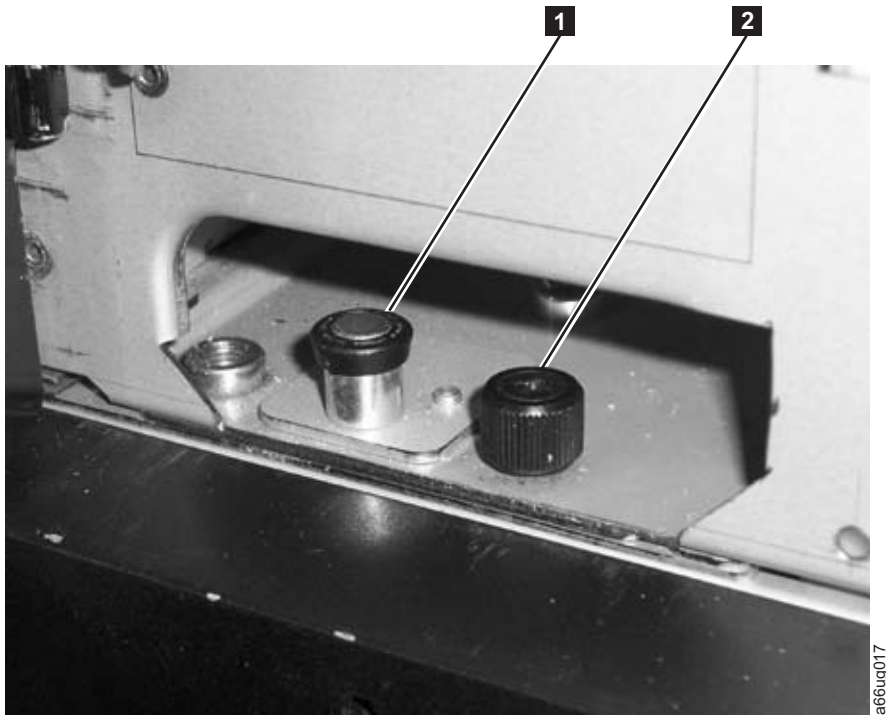

Figure 3-23. Module-to-Module alignment pin and front thumb screw
3. Ensure that the module-to-module alignment pin (**1** in Figure 3-23 on page 3-25) is in the raised position. If necessary, raise the pin and rotate it half a turn to lock it in the raised position.
9. Twist the upper module alignment pin ( **1** in Figure 3-23 on page 3-25) to unlock it from the up position.
11. Tighten the front thumb screw ( **2** in Figure 3-23 on page 3-25) and the thumb screw behind the I/O Station door to secure the front of the upper module to the lower module.